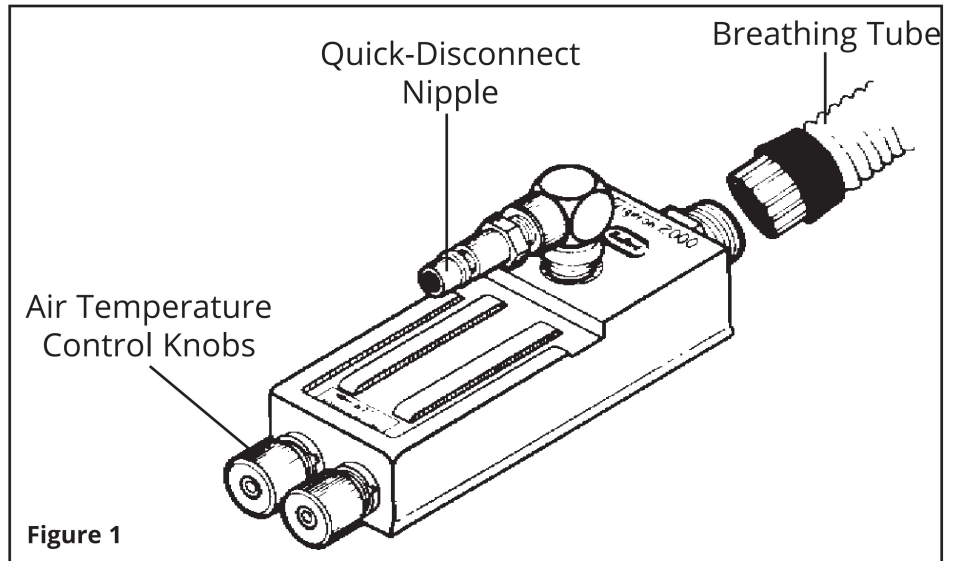

Figure 1
6. To obtain cooler air, turn either or both of the air temperature control knobs counter clockwise (Figure 1).